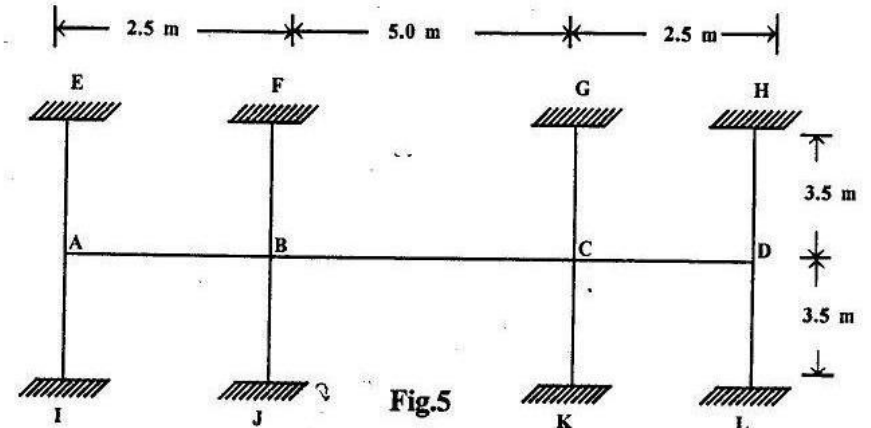

Fig.5
5. Analyse the substitute frame section shown in figure 5 for the maximum positive and negative bending moments in the beam AB, BC and CD. The frames are spaced at 3.5 m intervals. Use the following data to estimate the moments in beams and columns. Live load = 2.5 kN/m², Dead load = 3.0 kN/m². Self weight of beam = 2.0 kN/m², Beam and columns are of the same section. 14